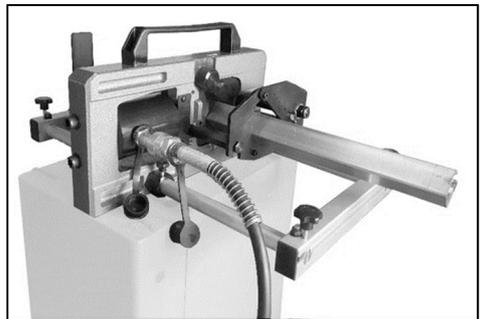

Figure 6
6. Make sure strut is clean and straight. Slide strut through stock rest and through blades, and against the stop. See Figure 6.